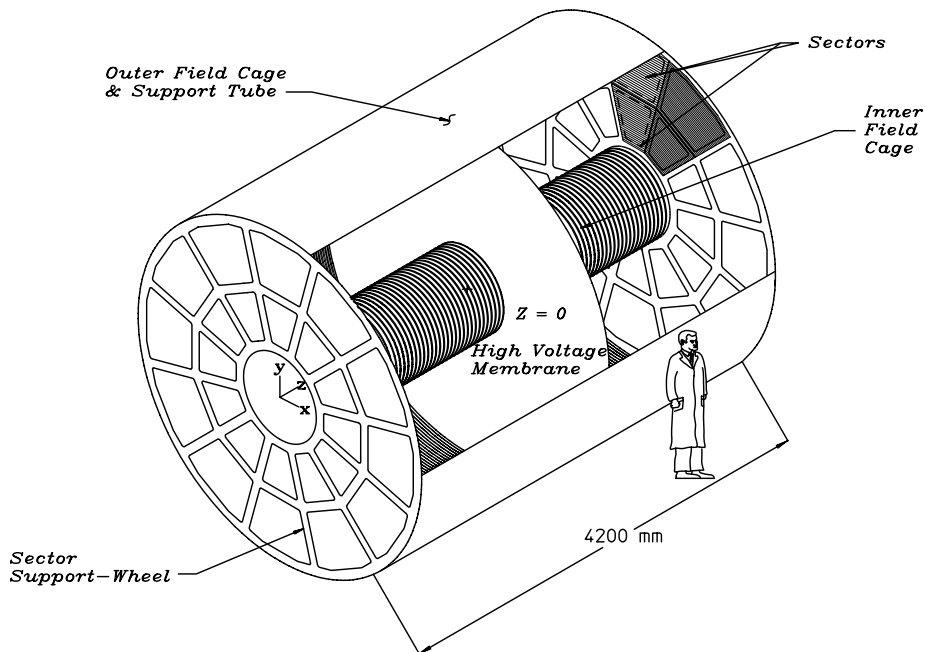

Fig. 1. The STAR TPC surrounds a beam–beam interaction region at RHIC. The collisions take place near the center of the TPC.
The STAR TPC is shown schematically in Fig. 1. It sits in a large solenoidal magnet that operates at 0.5 T [6]. The TPC is 4.2 m long and 4 m in diameter. It is an empty volume of gas in a well-defined, uniform, electric field of  $\approx 135$  V/cm. The paths of primary ionizing particles passing through the gas volume are reconstructed with high precision from the released secondary electrons which drift to the readout end caps at the ends of the chamber. The uniform electric field which is required to drift the electrons is defined by a thin conductive Central Membrane (CM) at the center of the TPC, concentric field-cage cylinders and the readout end caps. Electric field uniformity is critical since track reconstruction precision is submillimeter and electron drift paths are up to 2.1 m.